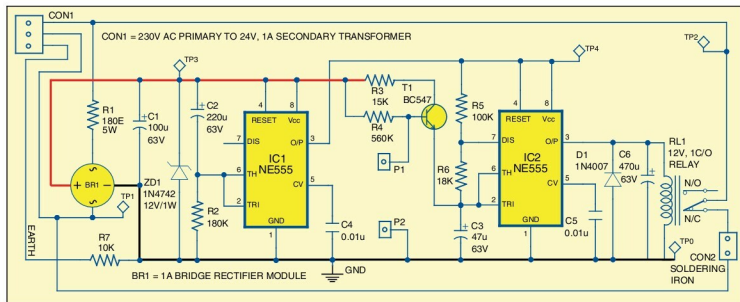

Fig. 1: Circuit of soldering iron tip preserver
Fig. 1 shows the circuit of soldering iron tip preserver. Two 555 timers (IC1 and IC2) are the heart of the circuit. IC1 is wired in monostable configuration and provides an initial warm-up time of about 45 seconds to bring the iron up to the required soldering temperature. At the end of this period, its output pin (3) becomes high, enabling IC2 (wired in astable